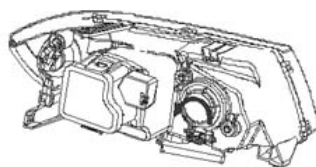

Fig. 4-76
- (7) Remove high beam bulb of left headlight as shown in Fig. 4-76, take off the sealing cover and clamp spring, then the bulb is removable.